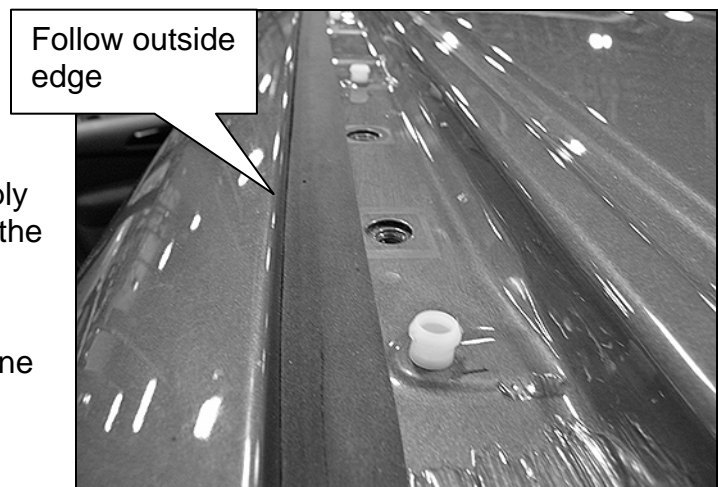

Figure 12
- c. While peeling only enough of the adhesive backing to allow several inches at a time to be attached apply the strip along the outside edge of the molding recess as shown in Figure 12.